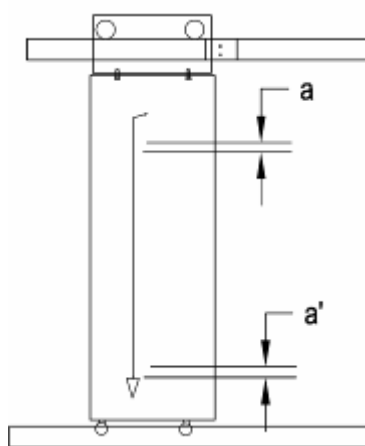

Figure 2-13 Front view of the car door configuration
1. Check and adjust the verticality of the door board with a plumbline to limit the difference within 1 mm. See Figure 2-13